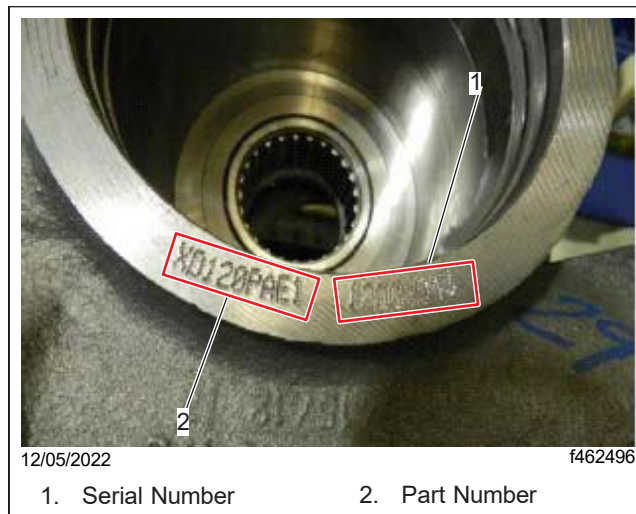

Fig. 1, Steering Gear Identification
4. Locate the serial number on the steering gear. See **Fig. 1**.